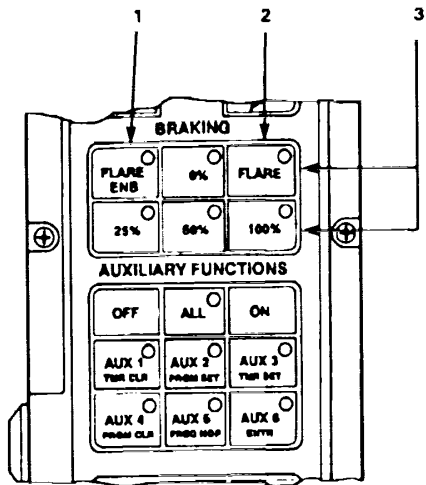

Figure 2-6. T/C Braking Switches
- d. Braking Switches. (See Figure 2-6.)